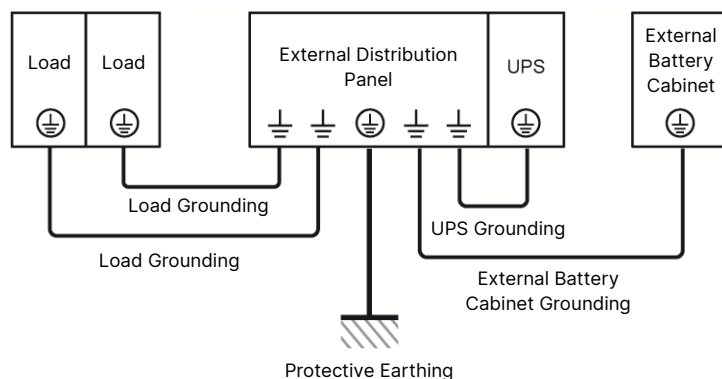
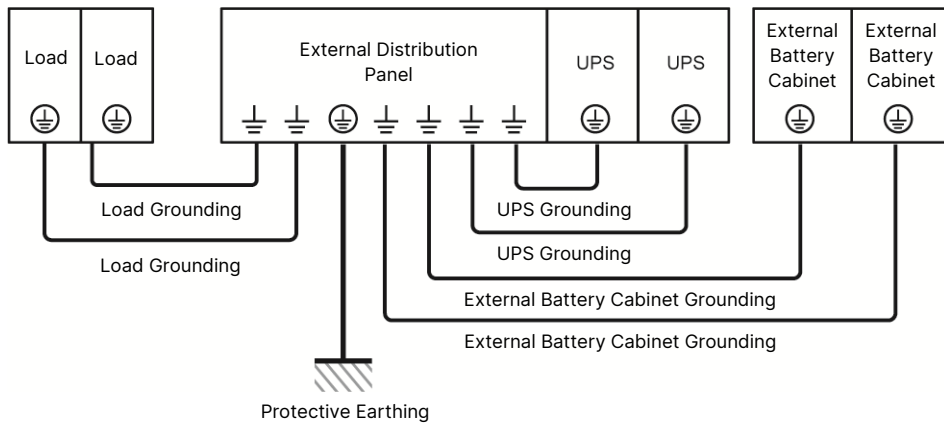

Figure 5-15: Grounding Diagram_ Single Unit
Figure 5-18: Grounding Diagram_ Parallel Units
Follow **Step 10** mentioned in **5.4.3.1 Single Input (Single Unit)** and refer to **Figure 5-15** to ground the UPS, external battery cabinet(s) and connected critical loads.
For single input, follow **Step 1 ~ Step 10** mentioned in **5.4.3.1 Single Input (Single Unit)**. As for the grounding diagram, please refer to **Figure 5-18** rather than **Figure 5-15**.
For dual input, follow **Step 1 ~ Step 4** mentioned in **5.4.3.2 Dual Input (Single Unit)**. As for the grounding diagram, please refer to **Figure 5-18** rather than **Figure 5-15**.
- For the external battery cabinet's grounding information, please refer to *Figure 5-15* and *Figure 5-18*.